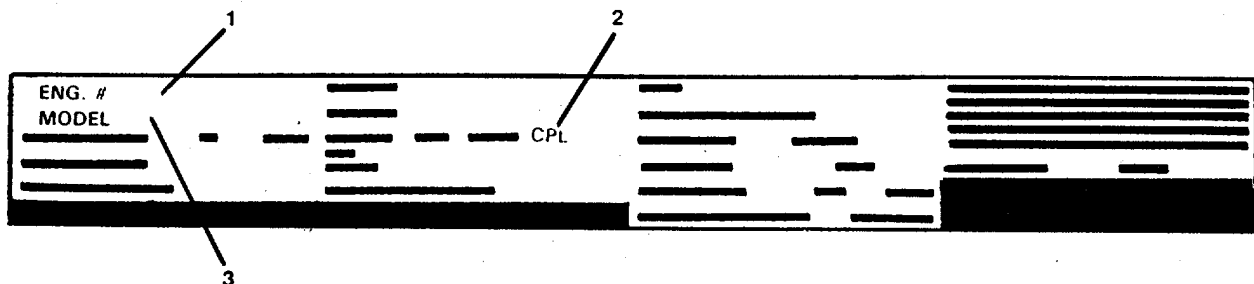

FIGURE 1-3. Dataplate Information to Record.
b. Serial Number and Control Parts List. Always record the serial number (1) of the engine, the CPL (Control Parts List) number (2), and the engine model number (3) on all orders for parts. This information is important for fuel pump calibration and correct identification of parts (Figure 1-3).